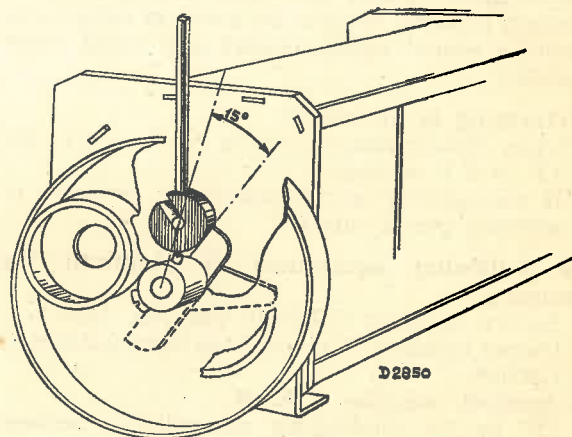

Fig. 5.
4. Fit 15° jig (see Fig. 5) and set the condenser to the jig (200 m.).